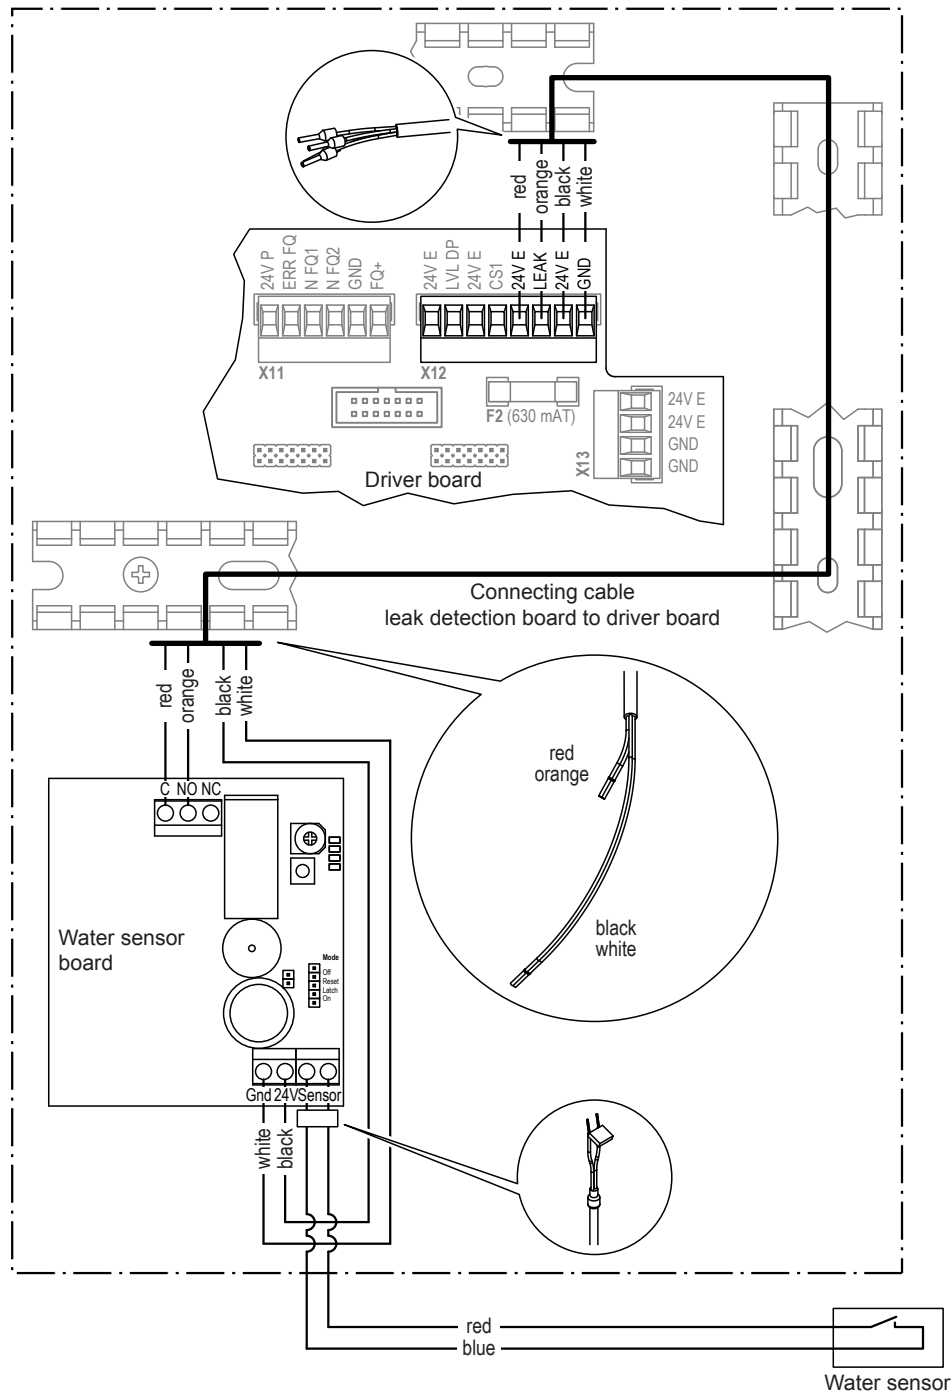

Fig. 5: Wiring diagram
6. Connect the insulated ferrule ends of the driver board to leak detection cable into the appropriate terminals of terminal block "X12" on the driver board as shown in Fig. 5.
8. Install the free ends of the driver board to leak detection cable to the terminals on the leak detection sensor board as shown in *Fig. 5*.
10. Inside the control unit, install the sensor cable ends into the sensor terminals of the leak detection sensor board as shown in *Fig. 5*. Ensure that the blue capacitor component is attached to both ends of the sensor cable.